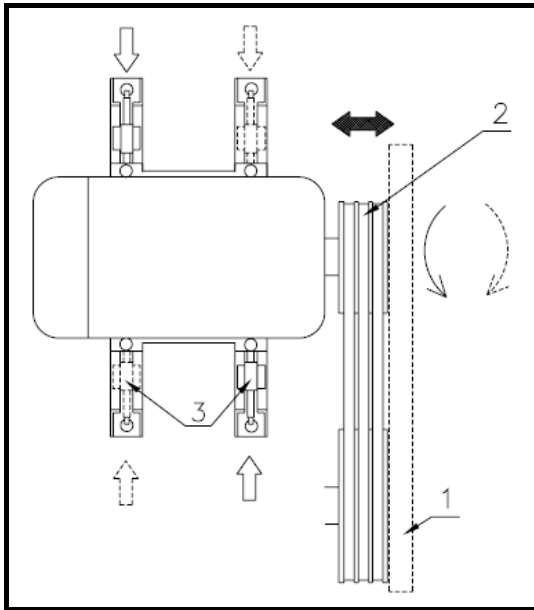

Fig. 7.9
Check afterwards if both pulleys are still aligned (see Fig.7.9).
- Use a ruler (1) to align the pulleys.
- When the motor-shaft is not parallel to the pump shaft, the motor can be rotated as shown in fig.7.9. Loosen the motor fixing bolts and use the tensioners (3) to rotate the motor. If necessary, one of the tensioners can be placed into the rail above the motor.